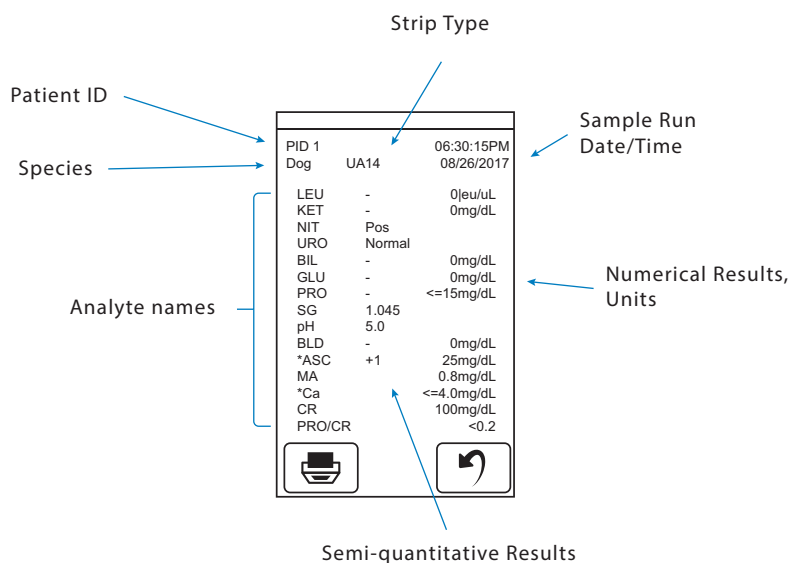

Fig. 15 UA Results screen.
- Results will appear onscreen one minute after start of the test (Fig. 15). The UA analyzer will automatically print the results if Auto-Print is selected in the settings and the printer is connected and powered on. Results may be manually printed via the Printer button at the bottom left of the Results screen.